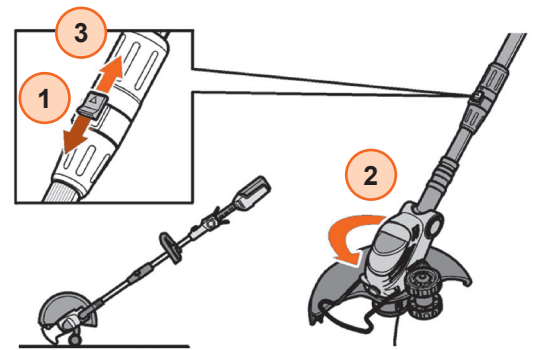

Figure 11
1. Press downwards and hold the locking button on the shaft coupling ① (see Figure 11). Turn the lower shaft by 90° ②. The arrow on the locking button coincides with the arrow on the shaft coupling. Release the locking button ③. Check latching by slightly twisting!